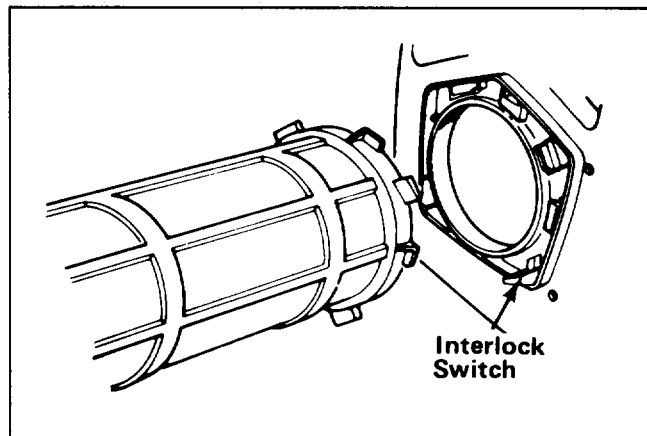
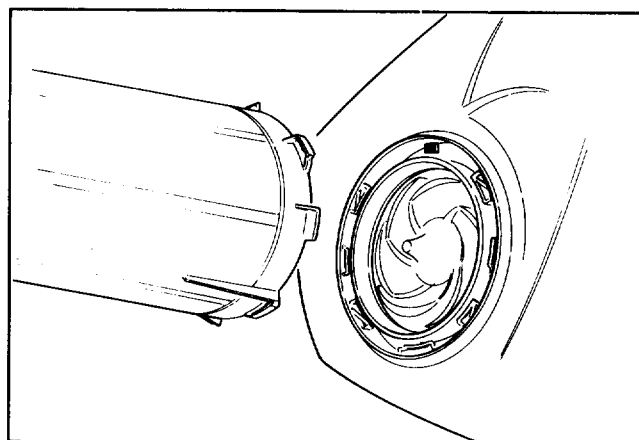

Figure 4
Figure 5
4. Insert upper tube into blower inlet and rotate clockwise until tabs lock (Fig. 4 for 450, 550 & 850) (Fig. 5 for 600, 700 & Yard Blower-Vac™).